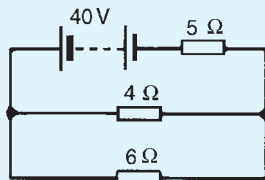

Figure 13.14
4. Use Kirchoff's laws to find the current flowing in the $6\ \Omega$ resistor of Fig. 13.14 and the power dissipated in the $4\ \Omega$ resistor.